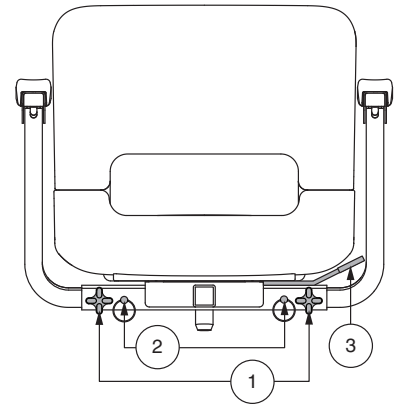

Figure 28. Seat Adjustments
The seat rotation lever, located on the right side of the seat base, secures the seat into several positions. See figure 28.
1. Loosen the armrest adjustment knobs. See figure 28